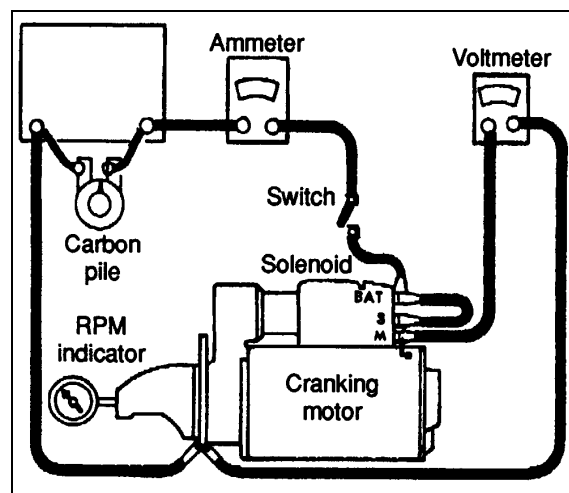

FIGURE 35: STARTING MOTOR TEST CONNECTIONS⁰⁶⁰⁸⁴
The clutch is a "Positork" drive type, that meshes with the ring gear by the action of the solenoid. Once engaged, the clutch will not disengage during intermittent engine firing. That prevents damage to pinion and ring gear teeth. The pinion remains engaged until starting is assured and the solenoid circuit is interrupted. Refer to figure 35 for more details.
Before disassembly of the starting motor, the following check of starting motor operation should be done to determine any condition that may require special attention during overhaul. Make test connections to the starting motor as in figure 35.
Connect the starting motor in series with fully charged batteries to give 24 volts, an ammeter capable of reading several hundred amperes and a variable resistance. Also connect a voltmeter as illustrated in figure 35 from the solenoid motor (M) terminal to the starter frame. A rpm indicator is necessary to measure armature speed. Proper voltage can be obtained by varying the resistance unit.